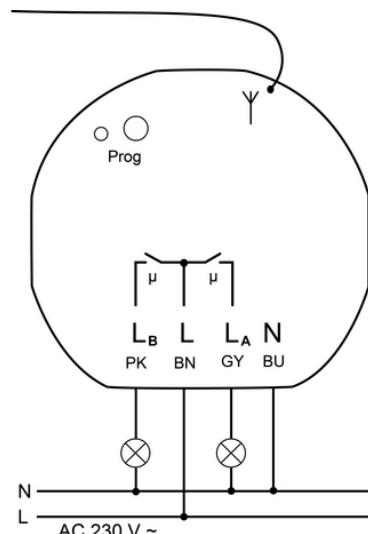

Figure 3: Connection example
- Connect actuator to lamp terminals according to connection example (Figure 3) (see Using the lamp terminals).